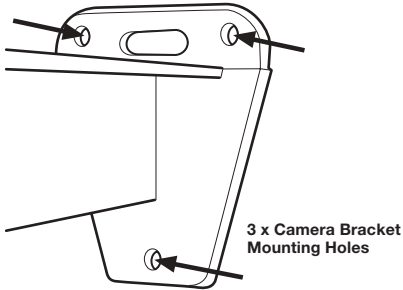

Fig. 1.
1. Use the camera's main bracket to mark out the x 3 mounting holes on the wall (Fig. 1).